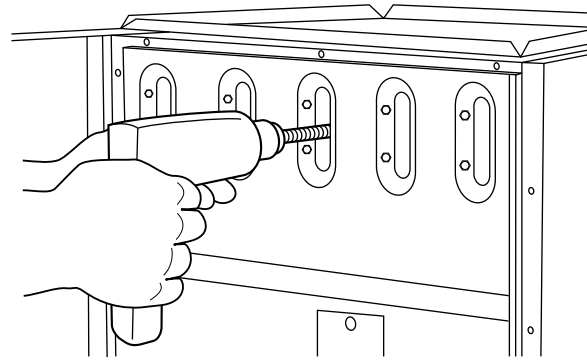

Fig. 55 - Cleaning Heat Exchanger Cell
- (2.) Insert brush end of cable into the outlet opening of cell and slowly rotate with drill. DO NOT force cable. Gradually insert cable into upper pass of cell. (See Fig. 55.)